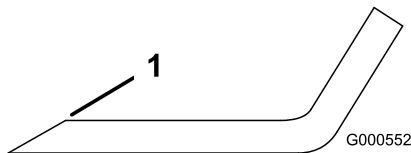
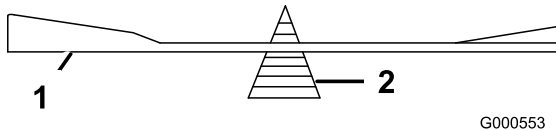

Figure 53
Figure 54
- Use a file to sharpen the cutting edge at both ends of the blade (Figure 53). Maintain the original angle. The blade retains its balance if the same amount of material is removed from both cutting edges.
- Check the balance of the blade by putting it on a blade balancer (Figure 54). If the blade stays in a horizontal position, the blade is balanced and can be used. If the blade is not balanced, file some metal off the end of the sail area only (Figure 53). Repeat this procedure until the blade is balanced.